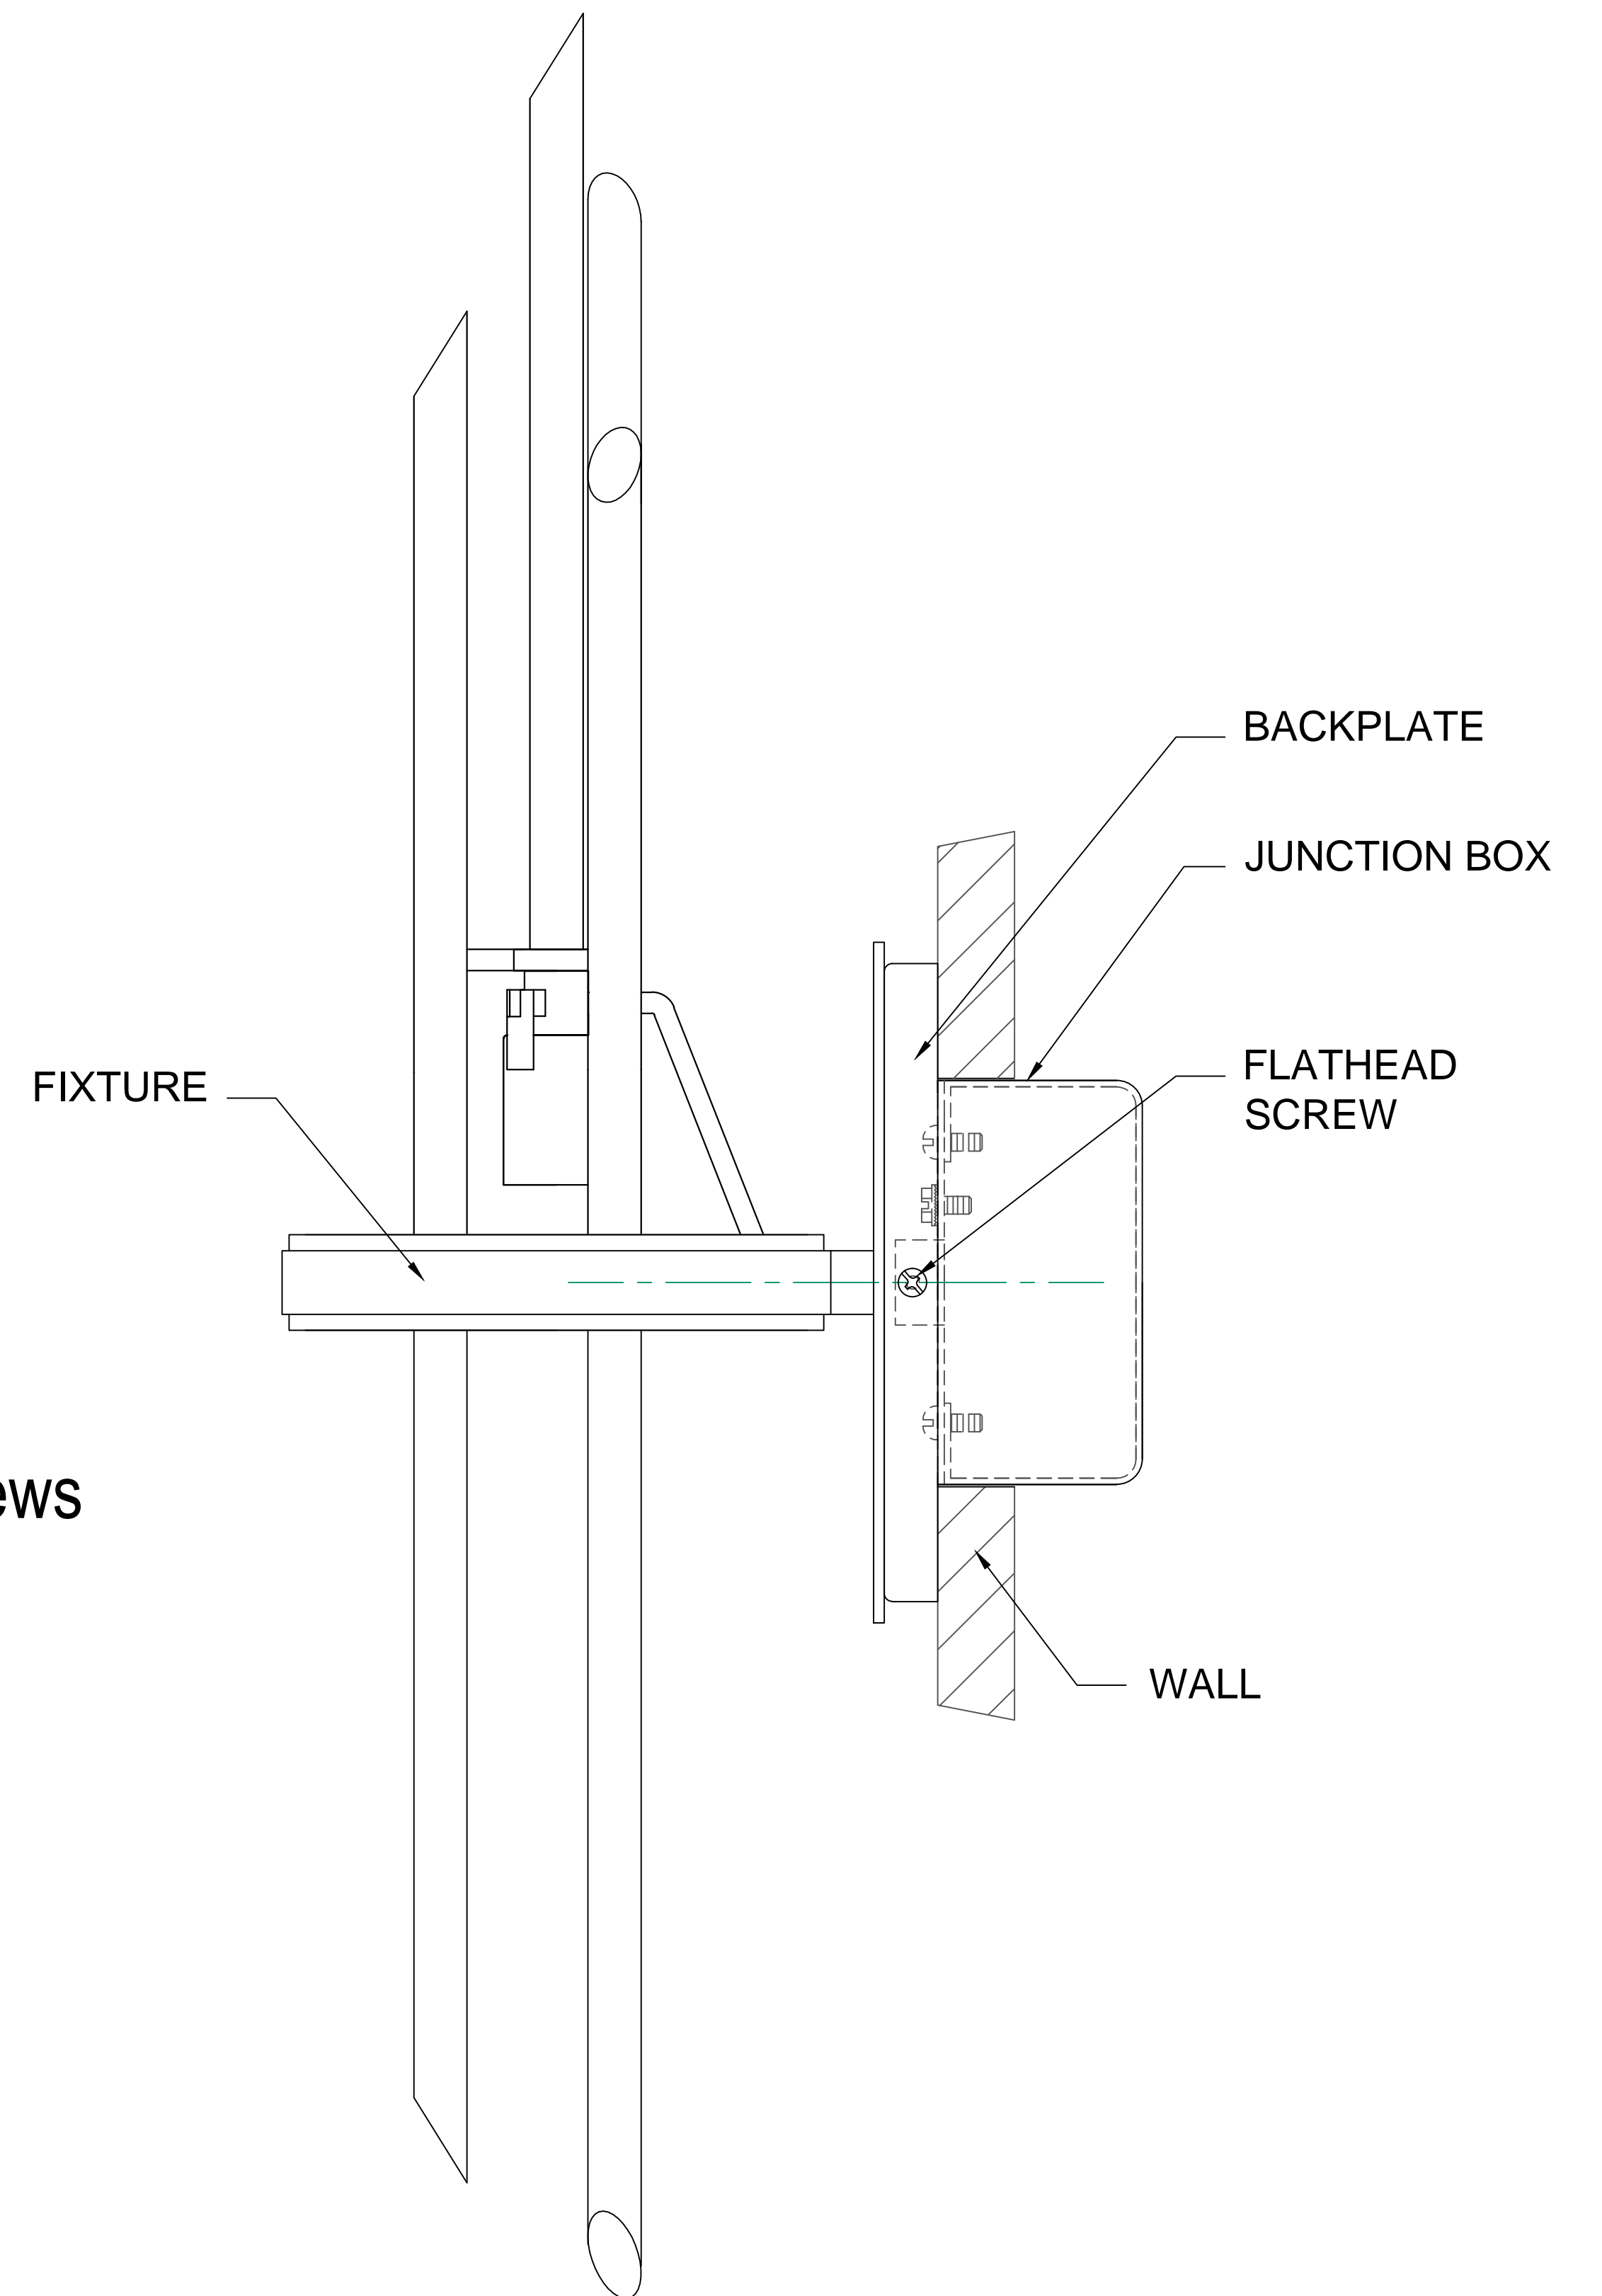

FIGURE-02
4. Attach the fixture to the mounting plate with wing and secure it with flathead screws (See Figure-02)